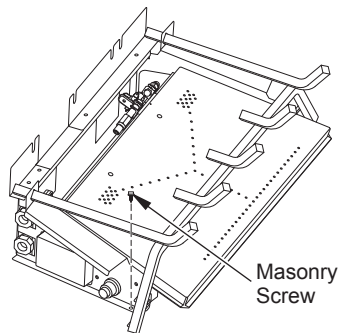

Figure 12 - Attaching Heater Base to Fireplace Floor
- Mark screw locations through holes in mounting brackets (see Figure 12). If installing in a brick-bottom fireplace, mark screw locations in mortar joint of bricks.
- Attach base assembly to fireplace floor using two masonry screws provided in hardware package (see Figure 12).